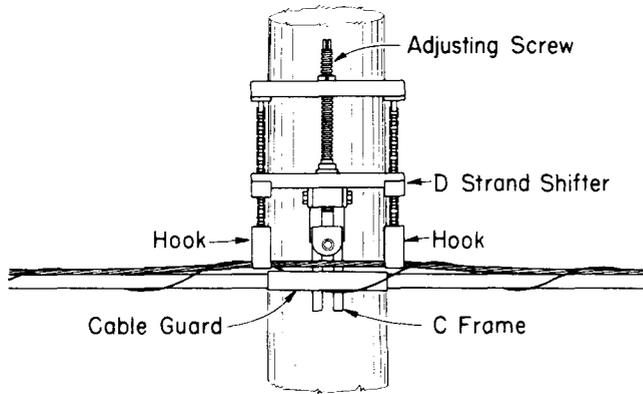

Fig. 14—D Strand Shifter Installed on C Cable Block Frame
7.03 The D strand shifter is used only with the C cable block frame, at in-line poles, to lift the cable and suspension strand vertically for attachment to the cable suspension clamp as shown in Fig. 14.